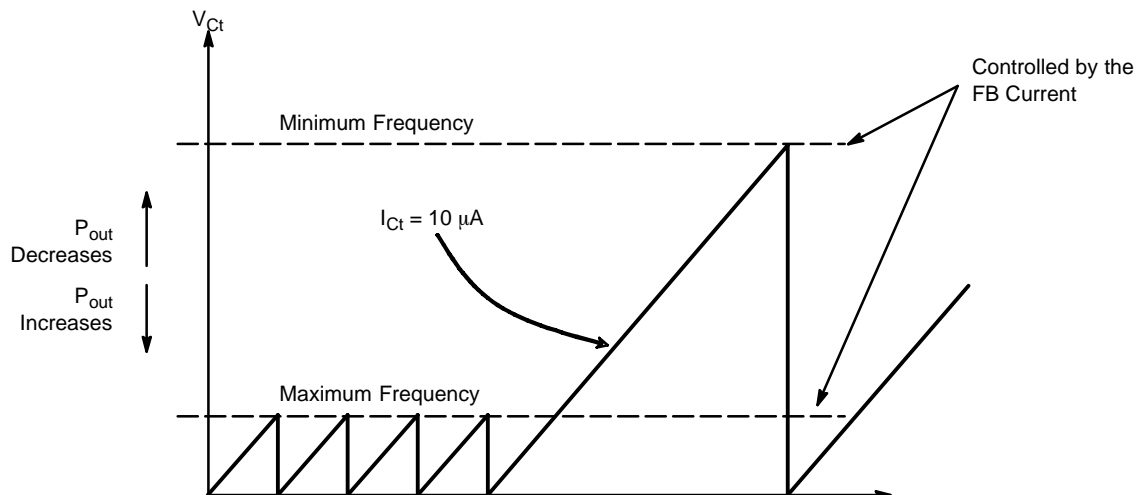
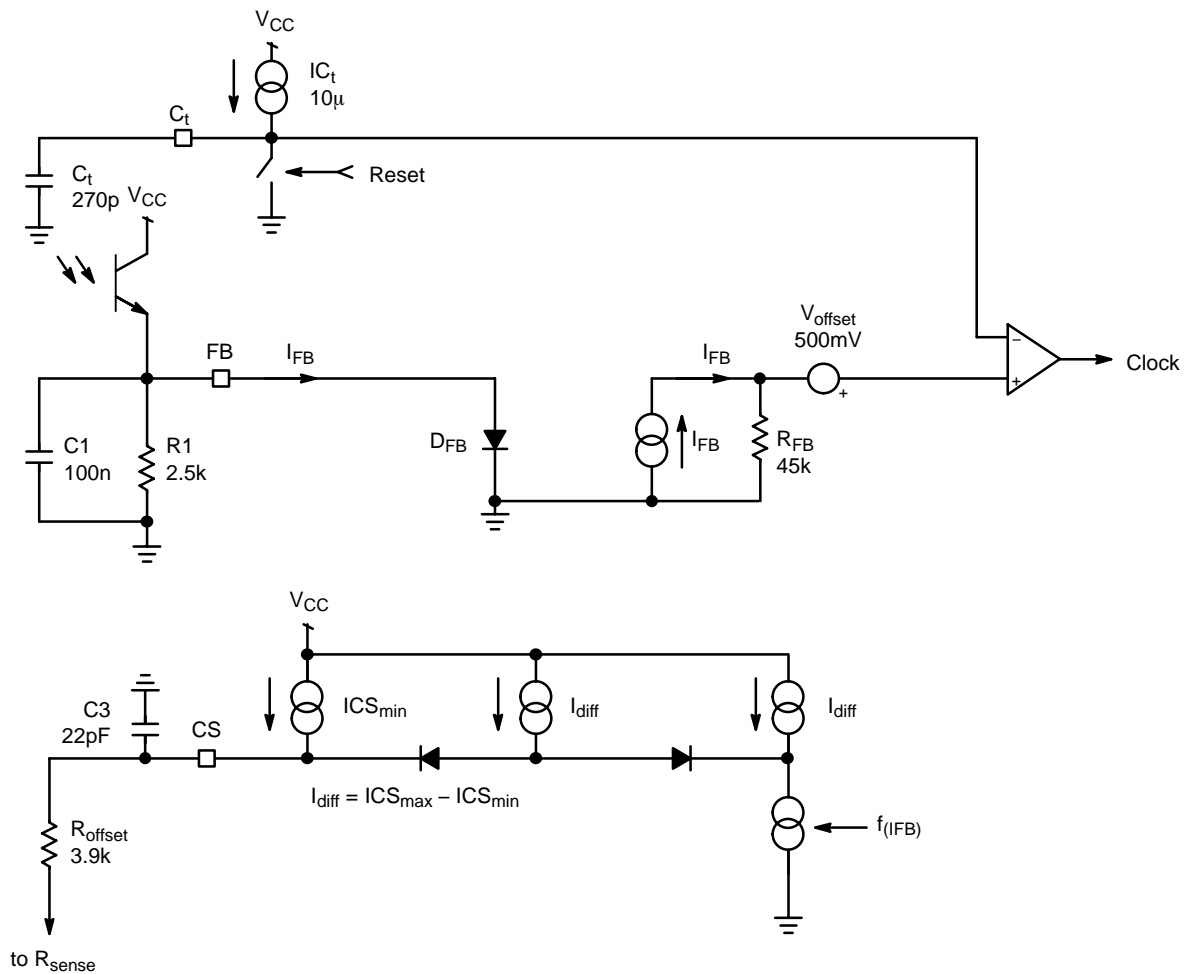

Figure 8. The Current Injected into the Feedback Loop Adjusts the Switching Frequency
Figure 13. The Feedback Section Inside the NCP1351
The feedback current controls the frequency by changing the timing capacitor end of charge voltage, as illustrated by Figure 8.
Unlike other controllers, the feedback in the NCP1351 works in current rather than voltage. Figure 13 details the internal circuitry of this particular section. The optocoupler injects a current into the FB pin in relationship with the input/output conditions.
The FB pin can actually be seen as a diode, forward biased by the optocoupler current. The feedback current, I_{FB} on Figure 13, enter an internal 45 k Ω resistor which develops a voltage. This voltage becomes the variable threshold point for the capacitor charge, as indicated by Figure 8. Thus, in lack of feedback current (start-up or short-circuit), there is no voltage across the 45 k Ω and the series offset of 500 mV clamps the capacitor swing. If a 270 pF capacitor is used, the maximum switching frequency is 65 kHz.
Folding the frequency back at a rather high peak current can obviously generate audible noise. For this reason, the NCP1351 uses a patented current compression technique which reduces the peak current in lighter load conditions. By design, the peak current changes from 100% of its full load value, to 30% of this value in light load conditions. This is the block placed on the lower left corner of Figure 13. In full
2. B version: the circuit stops its output pulses and the auxiliary V_{CC} decreases via the controller own consumption ($\approx 600 \mu\text{A}$). When it touches the $V_{CC(min)}$ point, the circuit re-starts and attempts to crank the power supply. If it fails again, an hiccup mode takes place (Figure 13).